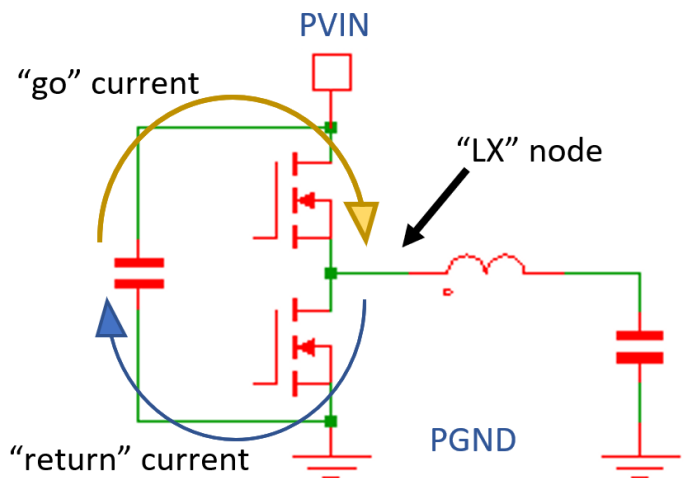
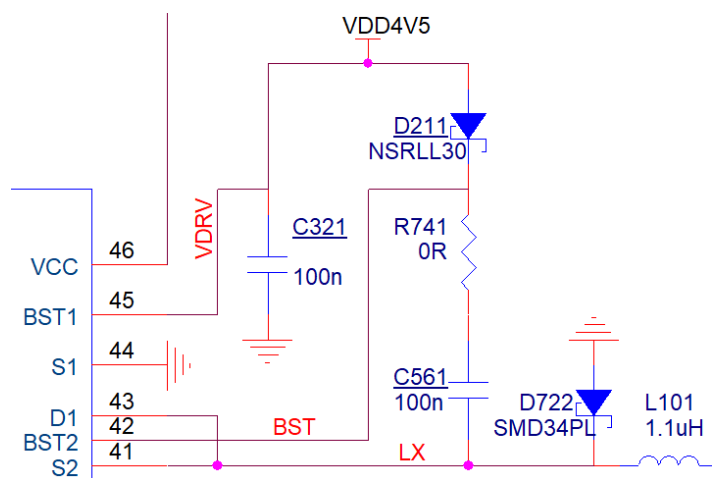

Figure 1: Synchronous Buck Converter: main switching loop and high dv/dt node
Figure 2: Schematic showing bootstrap components C561, optional R741, and D211; and optional freewheeling diode D722.
The LX node is pointed to by the arrow in Figure 1, and labeled “LX” in Figure 2. It connects the half-bridge output to the inductor. Because it carries high current, the trace needs to be wide to minimize resistive losses that reduce system efficiency. A quick rule of thumb to calculate the full load efficiency loss in percent due to resistive losses, %LOSS:
The high-side BST (gate drive bootstrap) pin (pin 42 / BST2 in Figure 2), and components attached to it (C561, R741, and the cathode of D211), have the same dv/dt as the LX node. Ensure that these components, and their traces, likewise do not couple dv/dt noise into susceptible traces.
Currents flow in loops. The main switching loop in a synchronous buck converter *with high di/dt* is shown in Figure 1. This is formed by the half-bridge main MOSFETs, and the connections to the closest PVIN bypass capacitor. The yellow curved arrow represents the “go” current, and the blue curved arrow represents the “return” current. Together they form a loop, whose area needs to be minimized.
PCB manufacturers can fill small vias with thermally and electrically conductive material. This improves electrical and heat conduction – an advantage for the AmP device’s thermal pad. Consult your PCB manufacturer for their conductivity constants to enable calculating their thermal and electrical resistance. Also note that for thermally demanding applications, the MOSFET Source and Drain pins (S1/S2 and D1/D2 in Figure 2) also provide a heat path out of the device, in addition to the thermal pad. The vias and copper traces connected to these pins will help carry heat away.
There are a few more component connections which require attention. These components need to have a small loop area formed between them and the AmP device pins they connect to. That is, they need to be relatively close to the AmP device, and have short traces connecting them. The components which have a terminal connected to ground should have a via to the ground plane nearby. The components which have neither terminal grounded, ideally will have their respective go and return traces side by side, or one on top of the other on separate layers. These components are the following, visible in Figure 2:
- The optional low-side FET anti-parallel Schottky (D722 in Figure 2)